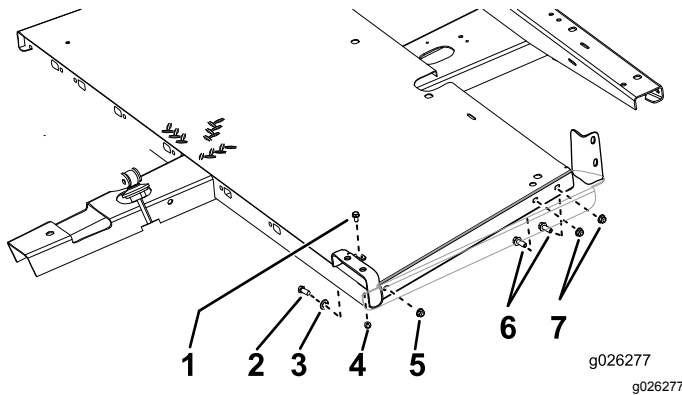

Figure 3
1. Secure the floor panels to the frame as shown in Figure 3.